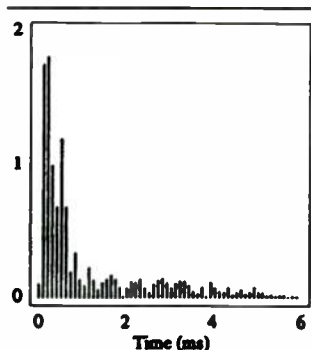

FIGURE 1A: Quad Electrostatic—original type.
Of the four reference "archetypes" to which other samples were compared, two were direct radiators and two were horns. The direct radiators included a Quad Electrostatic (Fig. 1A) and a Son Audax 6½" moving coil unit (B). The two horn archetypes were a Fostex H351/HA21 long (490mm) sectoral horn driven by an Emilar EK175 drive unit (C) and the "high" frequency section of a Tannoy 15" dual concen-